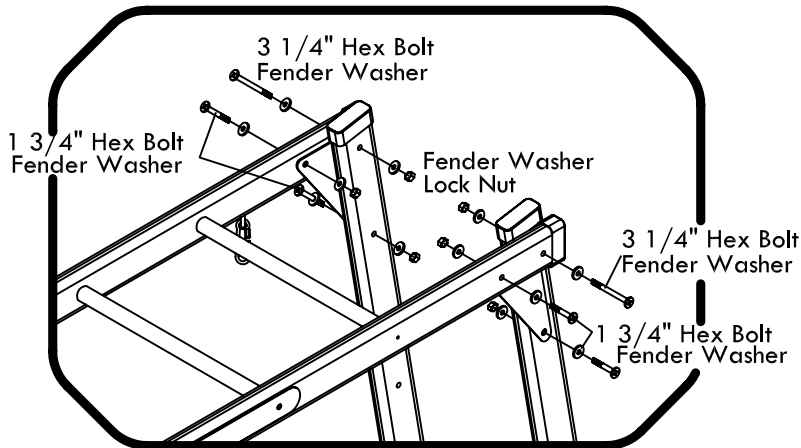

Fig. 19
- (1) Monkey Bar End Ladder 'B'
- (2) Monkey Bar Plates
- (4) Green L-Brackets
Step 1: Attach Monkey Bar Top Ladder 'A' to Monkey Bar End Ladder 'B' with metal Monkey Bar Braces between the two as shown with hardware shown in Fig 19. (Make sure Swing Hangers point down.)